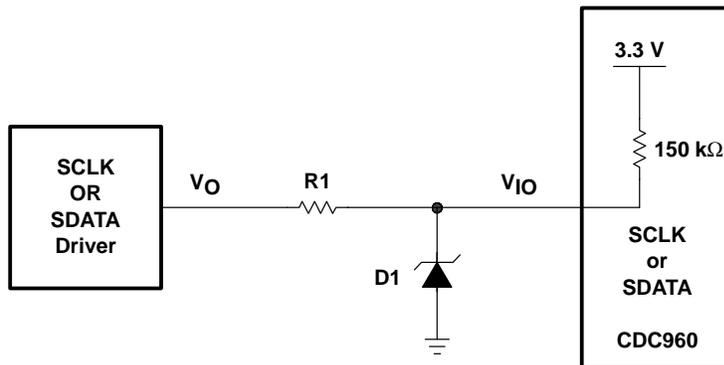
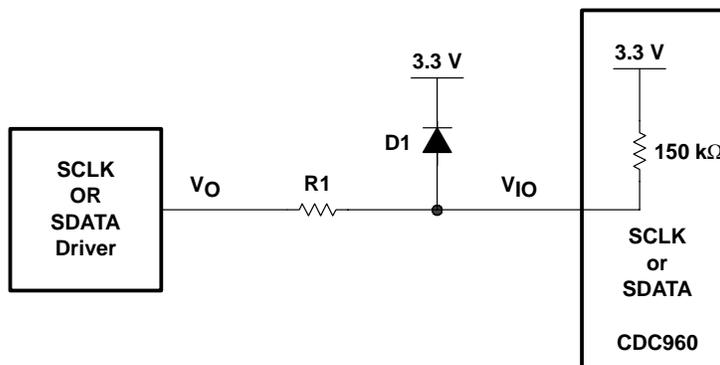

Figure 1. SCLK SDATA Connection to 5-V SMBus Using Zener Diode
Figure 2. SCLK SDATA Connection to 5-V SMBus Using Clamping Diode to V_{DD}
Zener diode D1 in Figure 1 is chosen such that the Zener voltage (V_{ZK}) cannot exceed 300 mV above V_{DD} of the CDC960. The minimum value of V_{ZK} must be greater than 2.1 V to meet minimum requirement for V_{IH} of the CDC960. The value of R1 is chosen to satisfy requirements both for I_{OH} of the driver of SCLK and SDATA and for V_{OL} and I_{OL} of SDATA of CDC960.
Diode D1 in Figure 2 should have a small forward voltage (V_F). Ideally, we want V_F to be less than 300 mV to meet the input voltage requirement of the CDC960. International IOR Rectifier has a device (part number 10BQ015) with maximum V_F of 350 mV at 1.0 A. Using the 10BQ015 with $R_1 = 150\ \Omega$, the worst-case I_{OH} is calculated using equation (4).
When using the configuration in Figure 2, the power supply is required to have a capability of sinking current. The total amount of sinking current is dependent on the overall load connected to that power supply.
Using the above interface circuitry with a high-impedance source, the available high-level voltage on the SMBus is limited to about (V_Z) for the configuration in Figure 1 and $(V_{DD}(\text{CDC960}) + V_F(D_1))$ for the configuration in Figure 2. One has to choose which option best fits a given SMBus configuration.
Actually, the typical SMBus configuration is an open-drain configuration with pullup resistors to the corresponding power supply. It does not require a 5-V SMBus driver that has a low impedance to drive the CDC960 SMBus ports with its additional components as shown in Figure 1 and Figure 2. The external components are not needed if the pullup resistors of the SMBus are directly connected to a voltage equal to the supply voltage of the CDC960 (typically 3.3 V). This pullup resistor connection is strongly recommended.